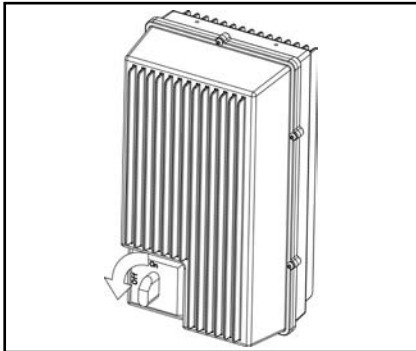

Fig. 13 0627106
2. Interrupt the master switch (Fig. 13).
1. Turn off the main switch at the control box (Fig. 13)